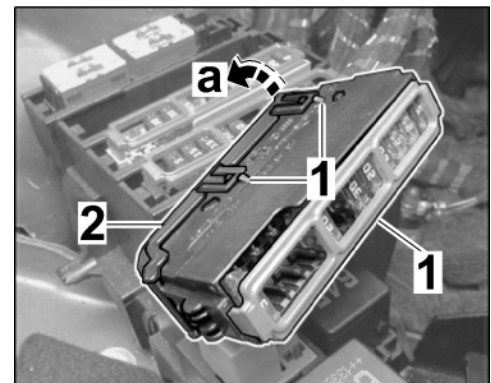

Figure 9
2.4.3 Release cap bottom from fuse strip B and C on both sides and unclip it (⇒ *Figure 9-a*).